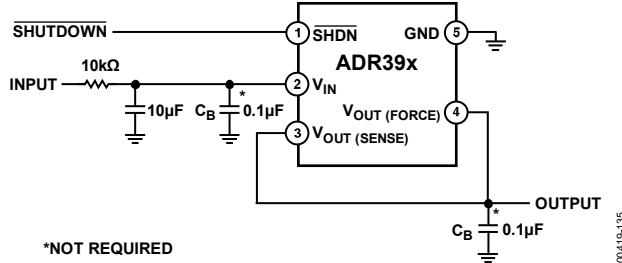

Figure 36. Low Pass Filter at  $V_{IN}$  Pin
- Low pass filter the input as shown in Figure 36, or